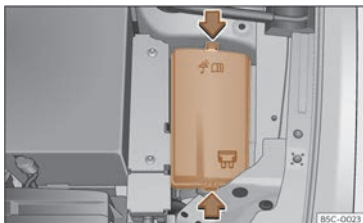

Fig. 211 In the engine compartment: lid of the fuse box.
- Press the locking tabs to unlock the fuse box cover >>> **Fig. 211**.